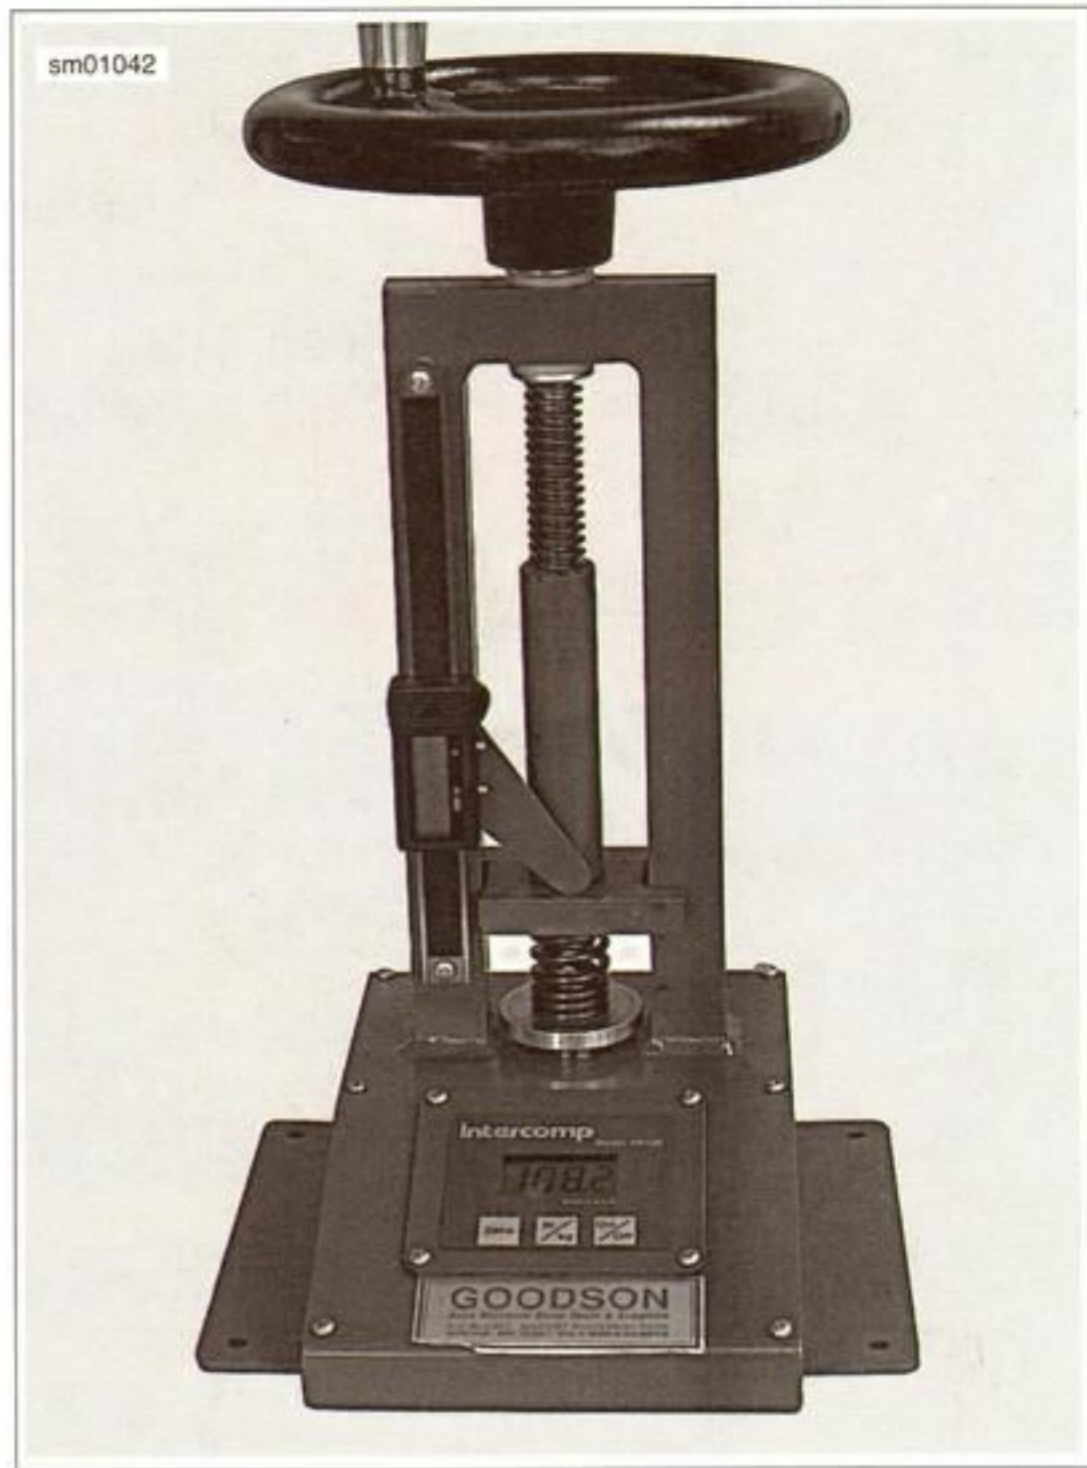

Figure 3-89. Testing Valve Spring
3. See Figure 3-89. Measure the spring force at the specified length. If a spring force is less than specification, replace the spring. If necessary, replace all the valve springs in the head. Refer to Table 3-19.